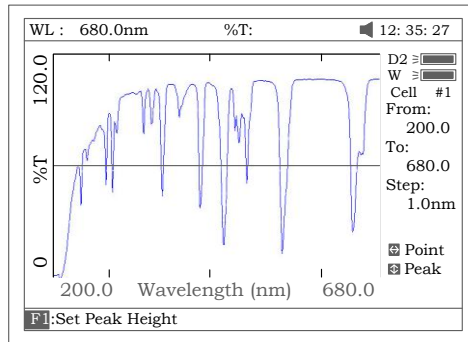

Fig 49
6. Press **F3** to search the Abs/%T value of the scan. There are two ways for you to search (Fig 49).